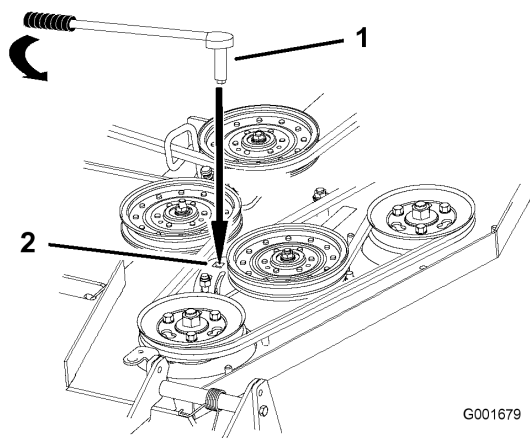

Figure 50
7. Insert a ratchet with a short extension or a breaker bar into the square hole in the fixed idler arm (Figure 50).